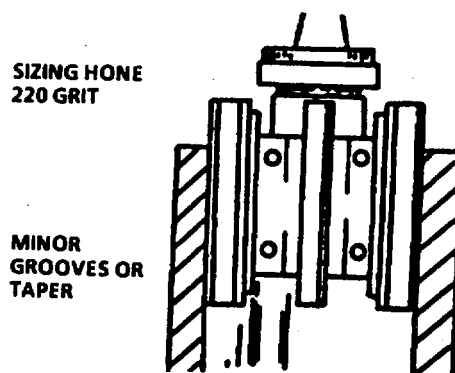

FIGURE 4-90. Removing Minor Grooves/Correcting Minor Out of Taper.
- (3) A sizing bore can be used to remove minor grooves or to correct minor out-of-taper (FIGURE 4-90). Taper should be 0.003 inch (0.076mm).